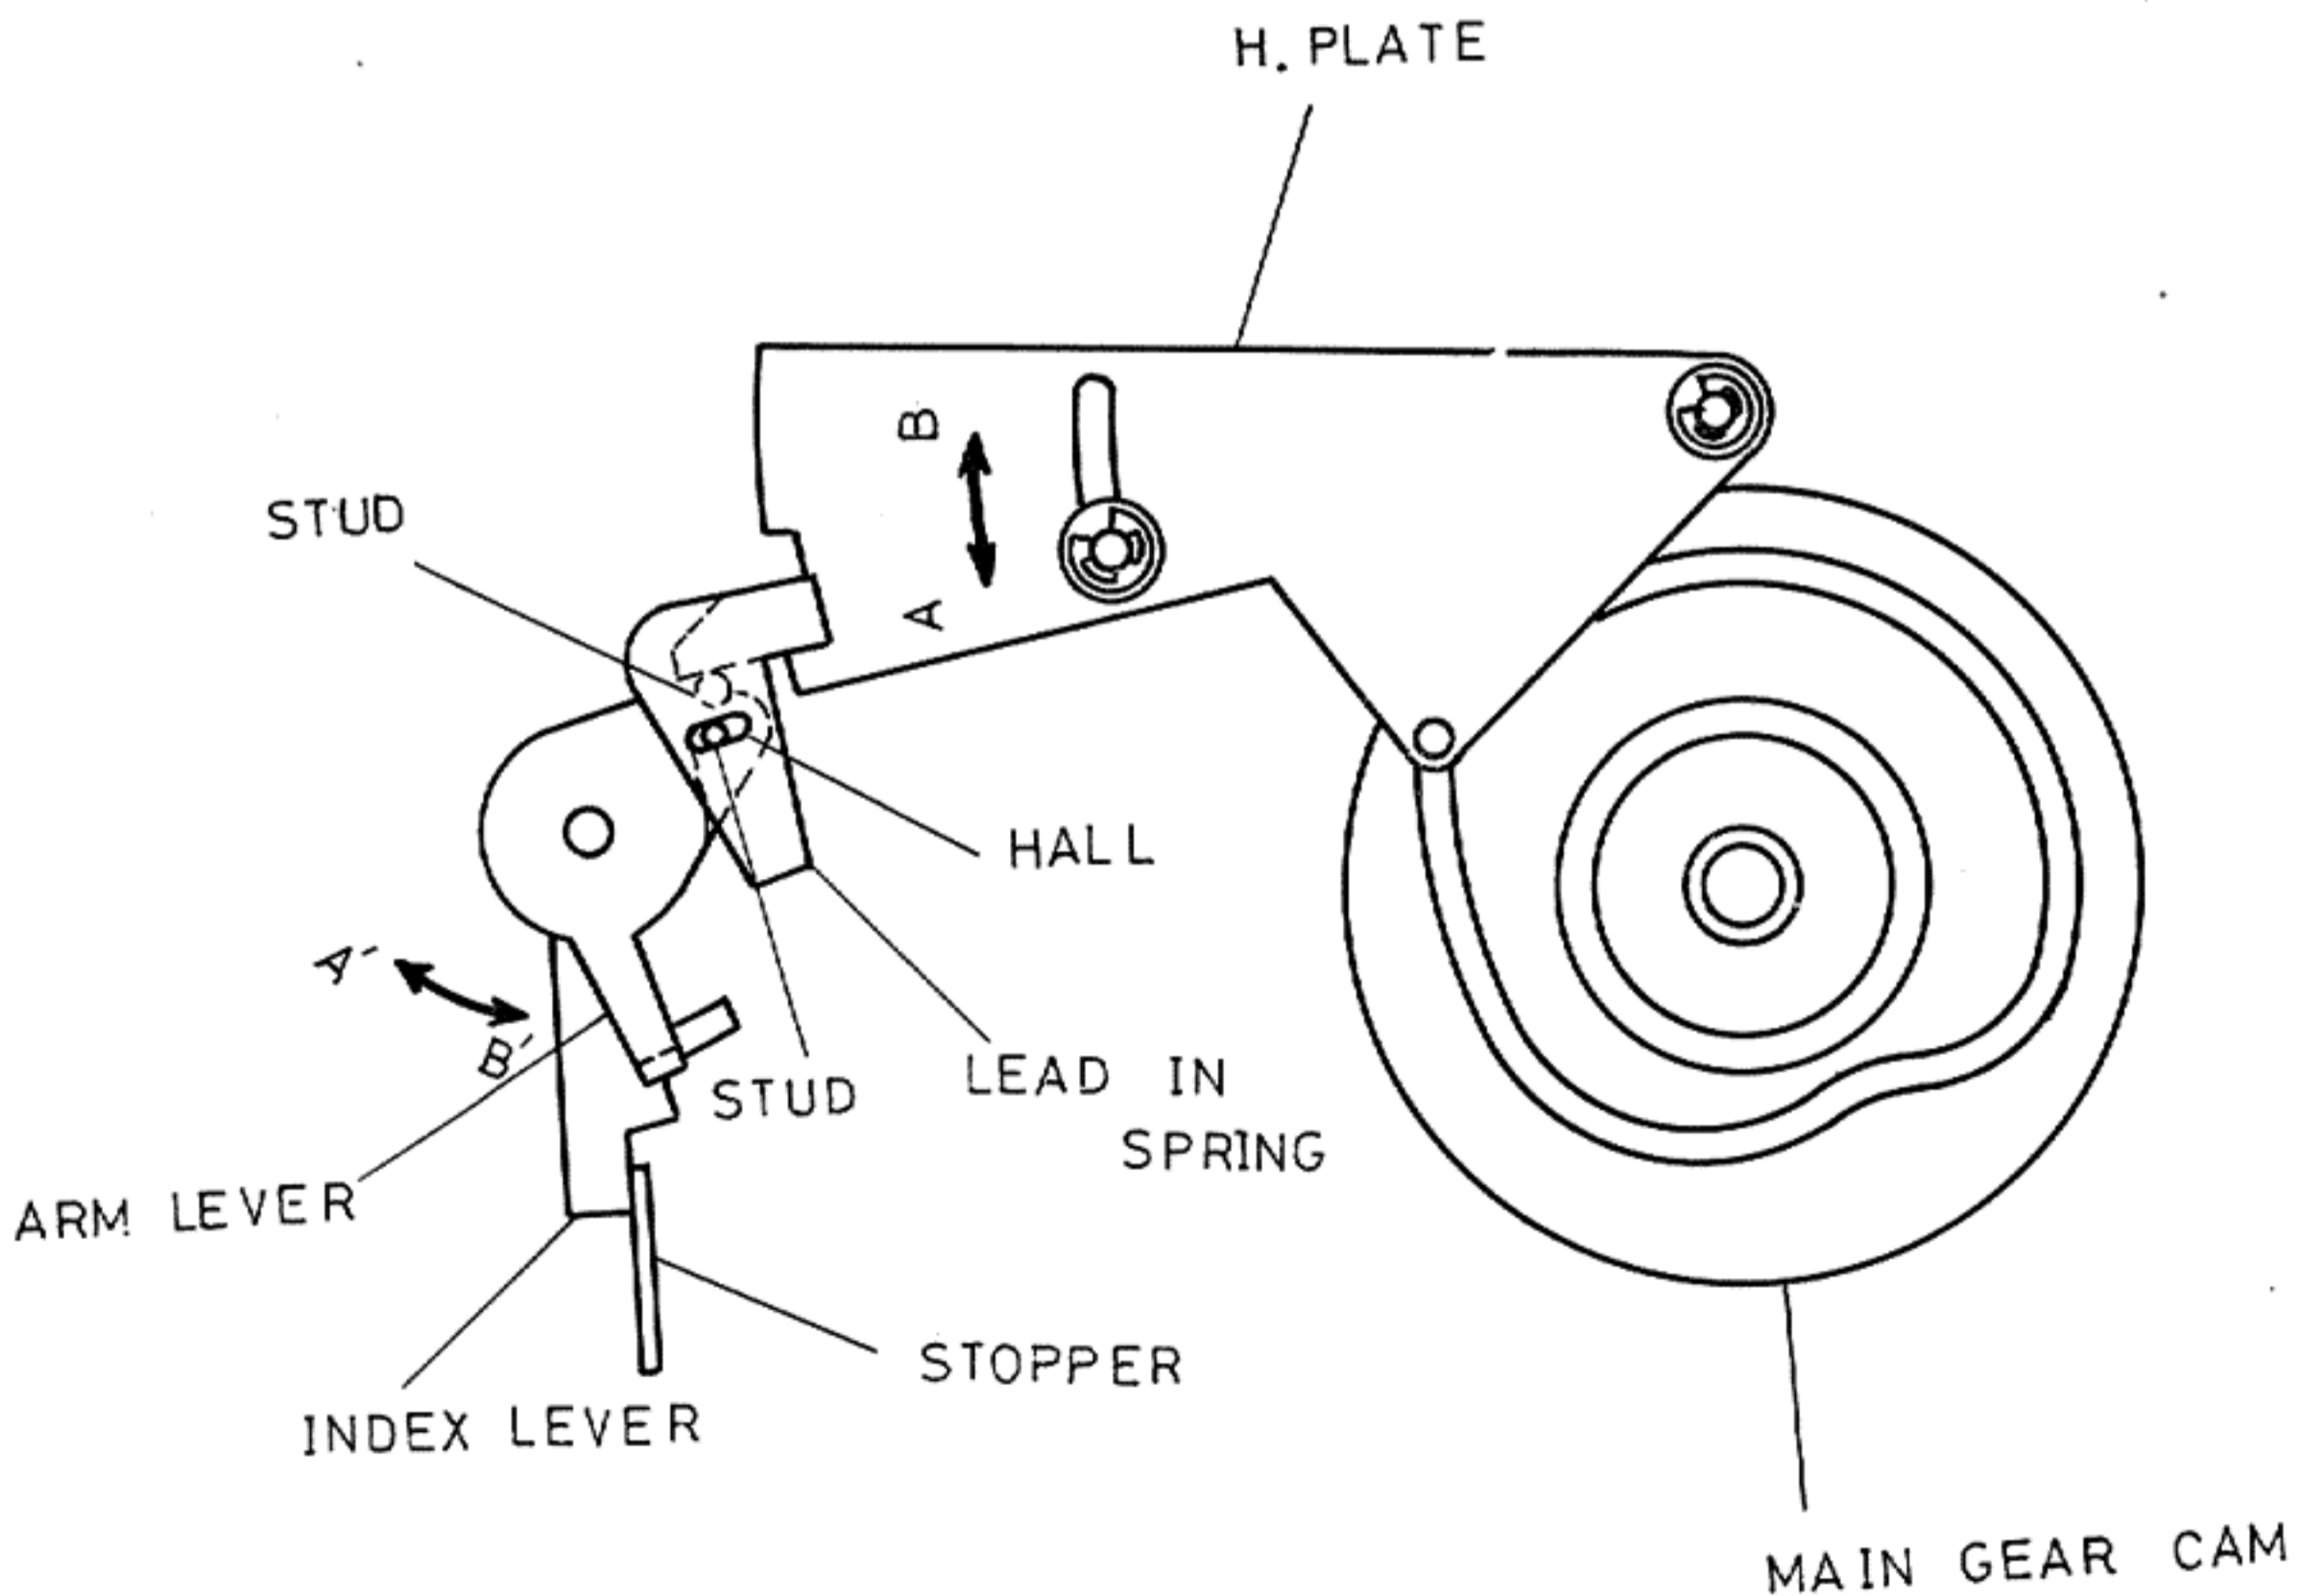

Fig. 9
- d. ② shows the very moment the Engagement touches the Projection of Turntable. When music is being played, however, the Projection pushes back the Engagement, preventing it from interlocking with Main Gear.
- e. When the Pick-Up reaches the run-out groove, the pitch becomes rough and interlocks the Projection an Engagement as shown in (3), starting the Change Cycle effect.
- f. When Change Cycle starts, the H. Plate moves toward A direction (Fig. 9) as the Main Gear revolves. The H. Plate this pushes the Stud of Arm Lever, moving the Arm Lever and the Index Lever toward A direction, and returning the Pick-Up to rest for a Lead-Out position.
### LEAD-IN (Fig. 9)